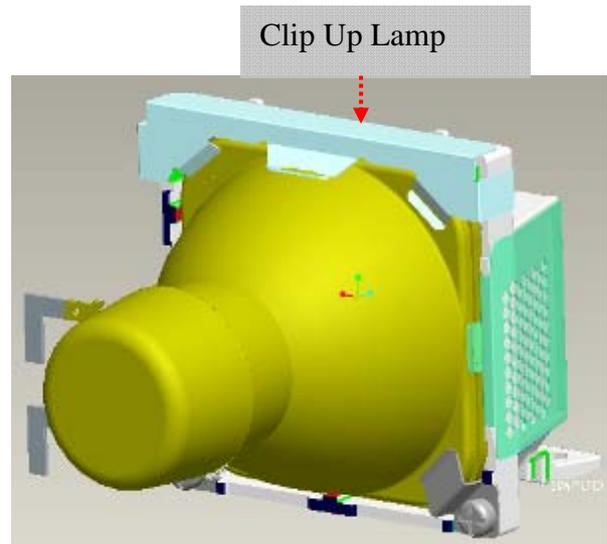

Fig.1-16
- v. Hook “Clip Up Lamp” on the HLD Lamp to fix Lamp last (Fig. 1-16).